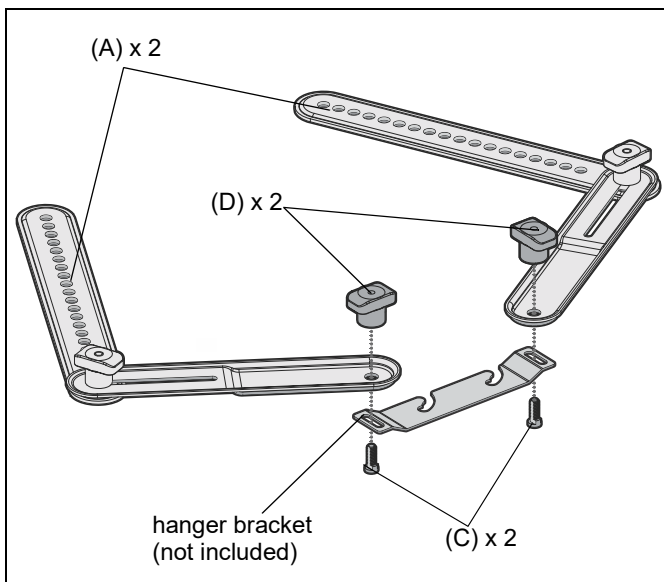

Figure 2
1. Attach two soundbar brackets (A) to soundbar's hanger bracket with two knobs (D) and two keyhole screws (C). (See Figure 2)